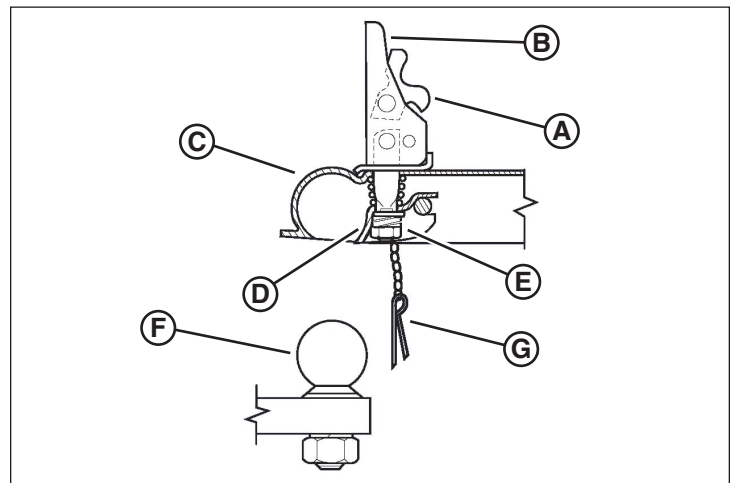

Figure 7
1. Pull up on the locking trigger (A, Figure 7), and lift the locking lever (B, shown lifted).
2. Adjust the coupler to the hitch ball (F, Figure 7) by pushing the channel lock (D) up, away from the adjusting nut (E).
4. Check to be sure the hitch ball is completely engaged in the coupler socket (C, Figure 7).
5. Push the locking lever down into the locked position. Insert the locking pin (G, Figure 7) into the hole in the locking lever, or use a padlock for added security.